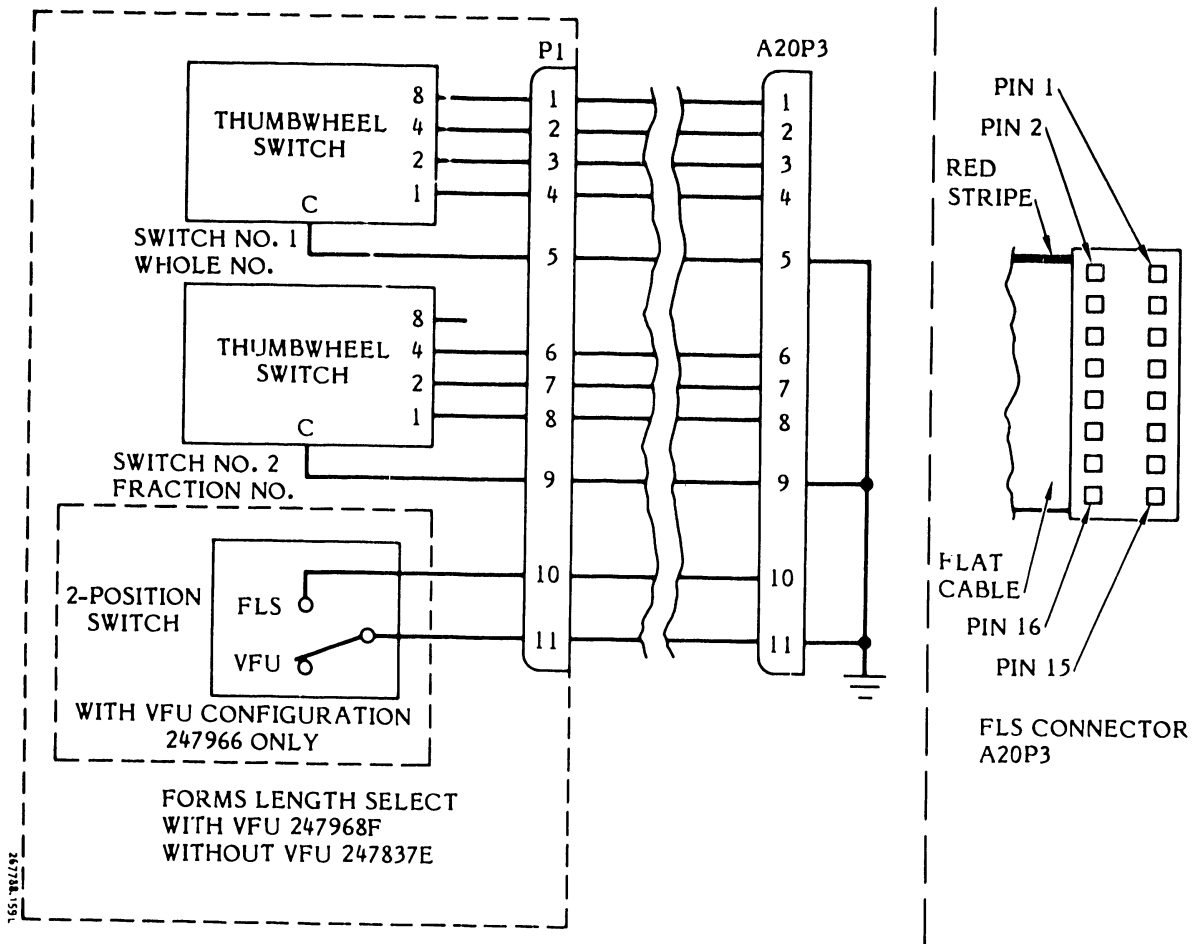

Figure 3-17. Forms Length Selector (FLS) Circuit
- f. Using a ohmmeter or DVM, test for the FLS switch and cable continuity at the FLS connector as noted in figure 3-17 and tables 3-5, 3-6, and 3-7.